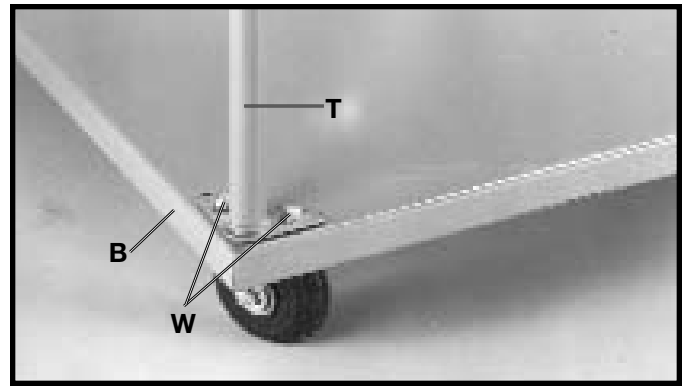

Fig. 16
12. Assemble the other end of drum support arm (T) Fig. 16, to base (B). Place a 5/16" lockwasher onto a 5/16-18x5/8" hex head screw (W), insert the hex head screw through drum support arm (T), and thread into base (B). Repeat this process for the remaining hole. **NOTE:** Do not completely tighten mounting hardware at this time.